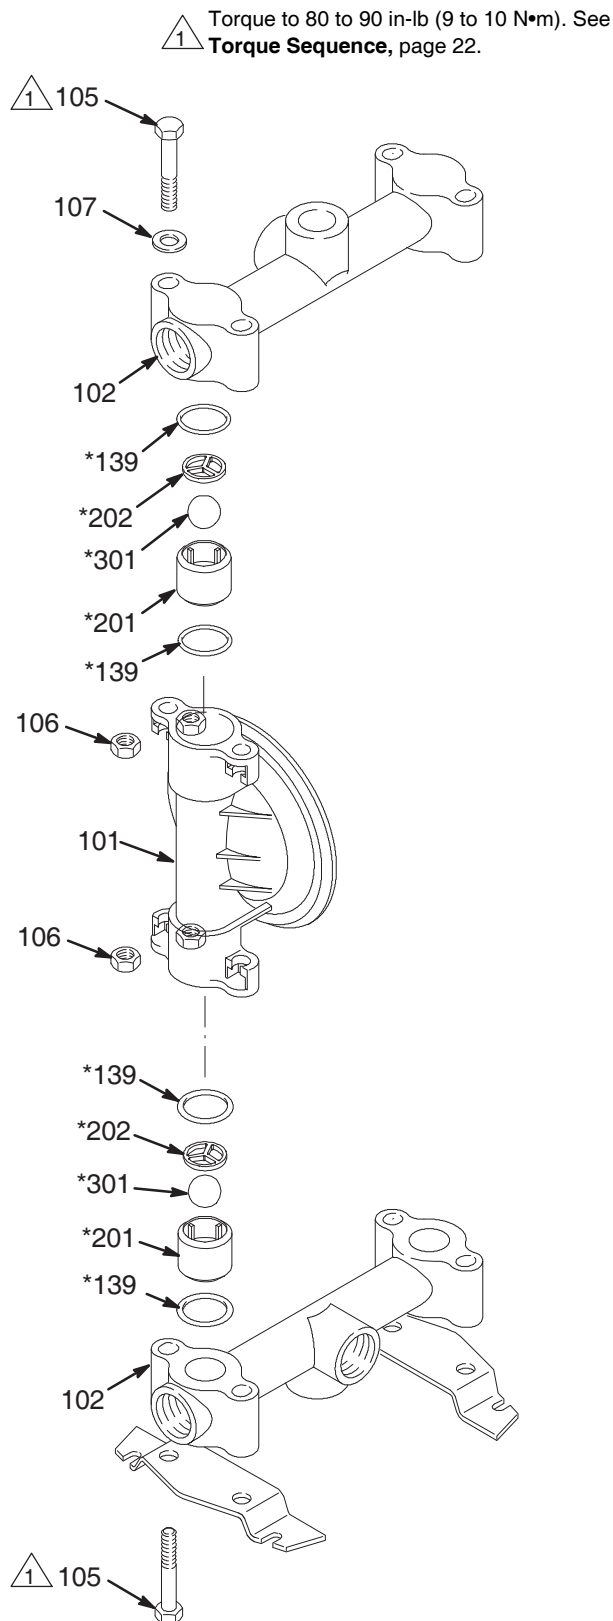

Fig. 9
3. Unscrew the four bolts (105), washers (107), and nuts (106) holding the top manifold (102) to the covers (101). Lift the manifold off the pump. See Fig. 9.
4. Remove the outer o-ring (139\*), ball stop (202\*), ball (301\*), ball guide (201\*), and inner o-ring (139\*) from each of the covers (101).
5. Turn the pump over. Remove the bolts (105), nuts (106), feet (108) and bottom manifold (102).
6. Remove the outer o-ring (139\*), ball guide (201\*), ball (301\*), ball stop (202\*), and inner o-ring (139\*) from each of the covers (101).
8. Reassemble. Follow all notes in Fig. 9. Be sure the ball checks are assembled **exactly** as shown.
2. Remove the manifolds (102) and fluid covers (101).
**NOTE:** Make sure all the check valve parts stay in place. See Fig. 9 on page 16.
3. Remove the grounding strip from the vee clamps (109), and remove the vee clamps.
4. Remove one of the fluid-side diaphragm plates (133) (whichever one comes loose first when you use a wrench on the hex of each), and pull the diaphragm shaft out of the center housing (11).
5. Use a wrench on the flats of the diaphragm shaft (15) to remove the other fluid-side diaphragm plate (133) from the diaphragm shaft.
6. Remove the screws (141) and air covers (136), and remove all old gasket (12) material from the ends of the center housing (11) and the surfaces of the air covers. This will loosen the exhaust cover (13) and o-ring (4) for removal.
7. Remove the diaphragm shaft u-cups (16) and pilot pin o-rings (1).
10. Make sure all the check valve parts are in place. See Fig. 9 on page 16.
11. Install the manifolds (102), and torque the manifold bolts (105) to 80 to 90 in-lb (9 to 10 N•m). See **Torque Sequence**, page 22.